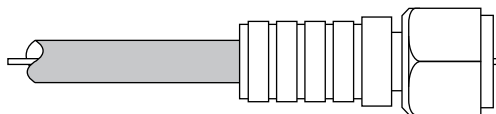

Figure 4-31. Weatherproof F-type connector
4. If the cable already has an F-type connector on it, go to step 5. Otherwise, install an F-type connector (see figure 4-31) onto the end of the cable.